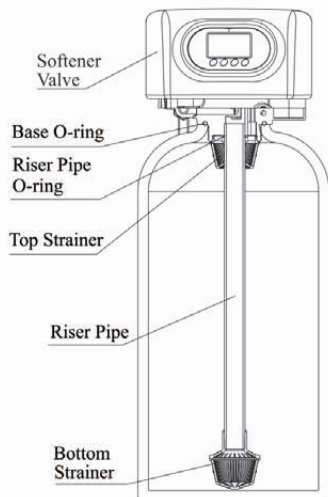

Figure1-1
a. As the Figure 1-1 shows, select the riser pipe with 26.7mm OD, glue the riser pipe to the bottom strainer and put it into the resin tank, cut off the exceeding pipe out of tank top opening and make external rounding.